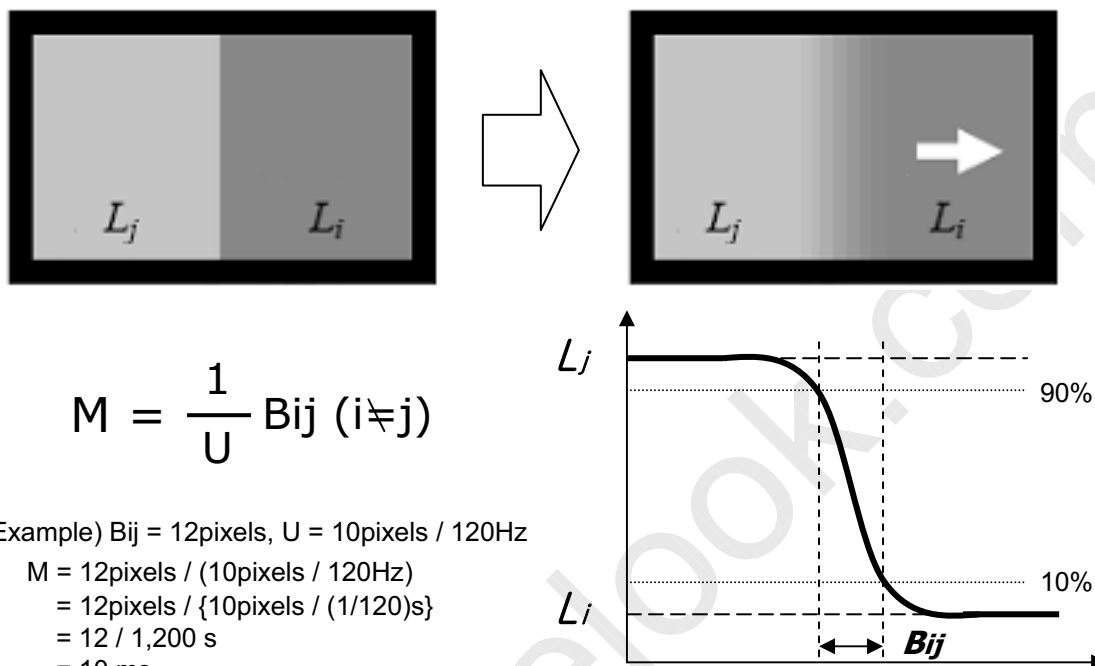

FIG. 4 MPRT
5. MPRT is defined as the 10% to 90% blur-edge width B_{ij} (pixels) and scroll speed U (pixels/frame)at the moving picture. For more information, see FIG 4